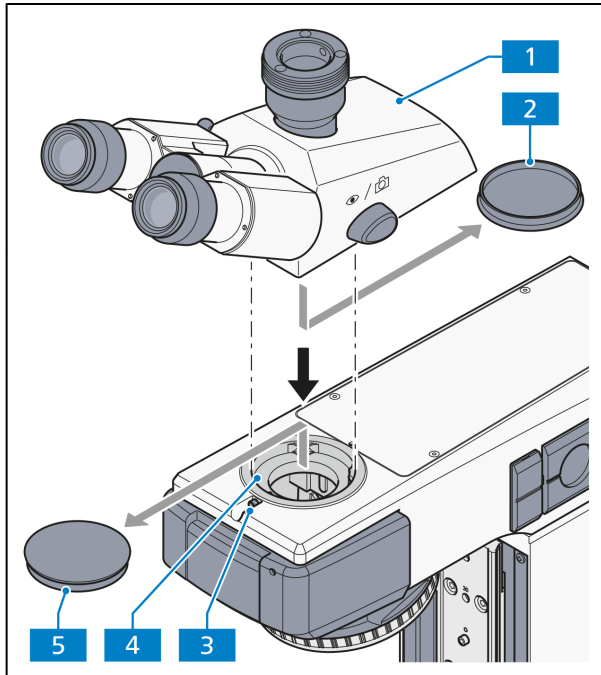

Fig. 3-3 Attaching the binocular tube
- Loosen the screws (Fig. 3-3/3) with the Allen wrench (AF 3).
- Remove the dust cover caps (Fig. 3-3/2 and 5) from the bottom of the tube and the dovetail ring socket on the stand.
- Hold the binocular tube (Fig. 3-3/1) or the binocular photo tube at an angle and insert it with the dovetail ring into the stand's dovetail ring socket (Fig. 3-3/4).